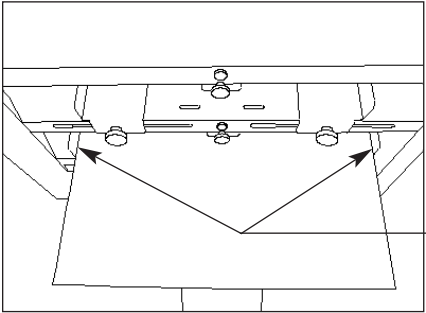

Figure 9
4. Position paper guides so that side-to-side movement will be no more than 1/32". NOTE: The guides should not pinch the stock. Inaccurate feeding could result if too tight (Figure 9).